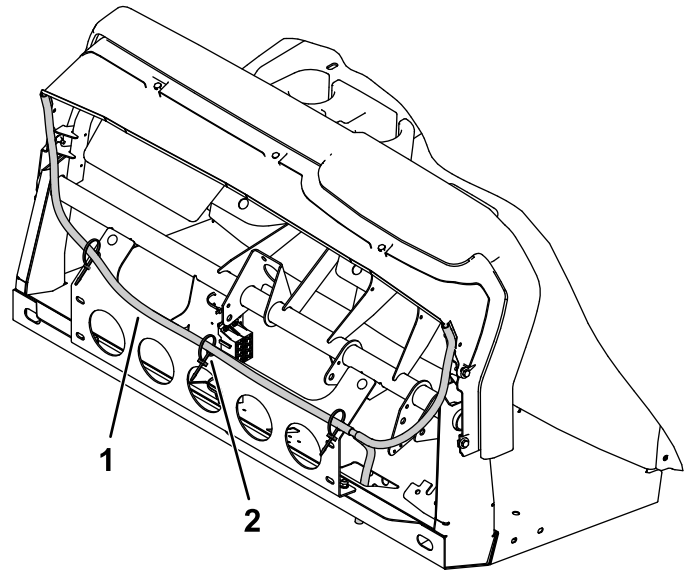

Figure 43
- Starting from the passenger's side, route the connected clear tube down through the floor board (with the clutch pedal) to the driver's side of the machine (Figure 43).
- Secure the connected clear tube with the 3 magnetic tie-wrap mounts and 3 cable ties (Figure 43).